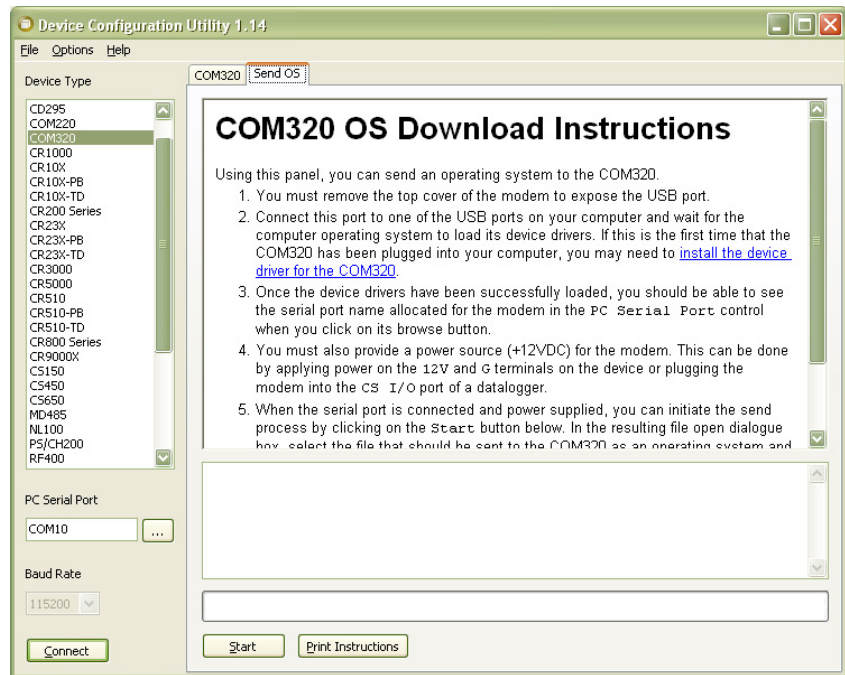

FIGURE B-1. Send OS Screen in Device Configuration
- 5) Select COM320 from the Device Configuration utility menu and select the *Send OS* tab at the top (Figure B-1).